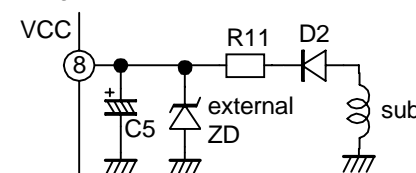

Fig.15 Vcc clamp circuit
-Set ZCD condition preceding Vcc condition. In this case, there is possibility for Vcc to exceed the recommended conditions. Therefore, clamp the Vcc with internal ZD or additional ZD (Fig. 15). In this case, a resistance for current limit (R11) is needed between the auxiliary winding and Vcc pin. In addition, especially when using internal ZD, mind that "Total power supply and zener current" and